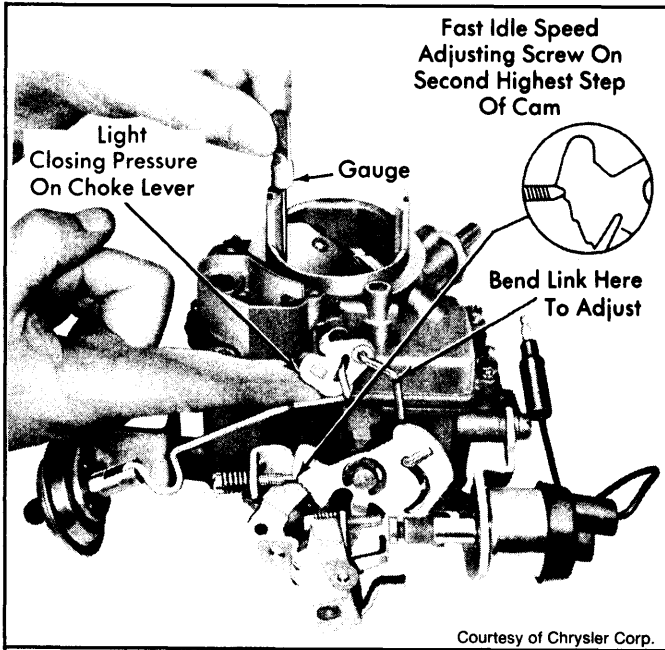

Fig. 3: Adjusting Fast Idle Cam Position
- 2) Measure fast idle cam specified clearance between upper edge of choke valve and air horn wall. Measurement can be checked using a specified drill or pin gauge. See Fig. 3.